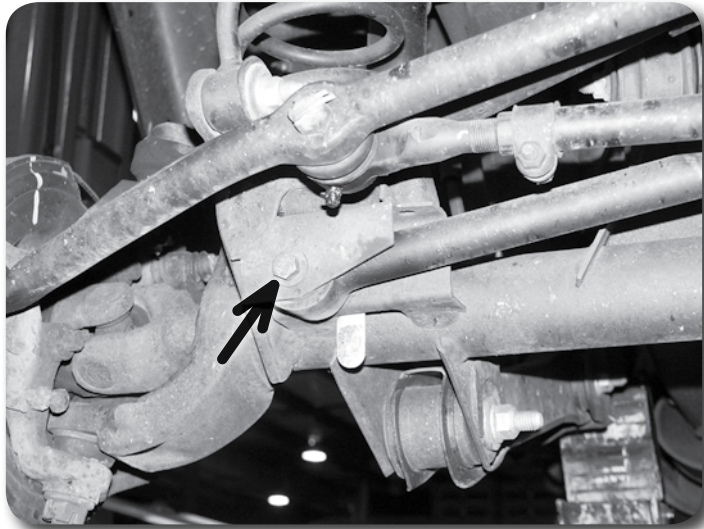

Figure 1
2. Remove the bolt mounting the front track bar to the passenger's side of the axle (Figure 1). Save track bar bolt and nut tab. Allow the track bar to hang free.